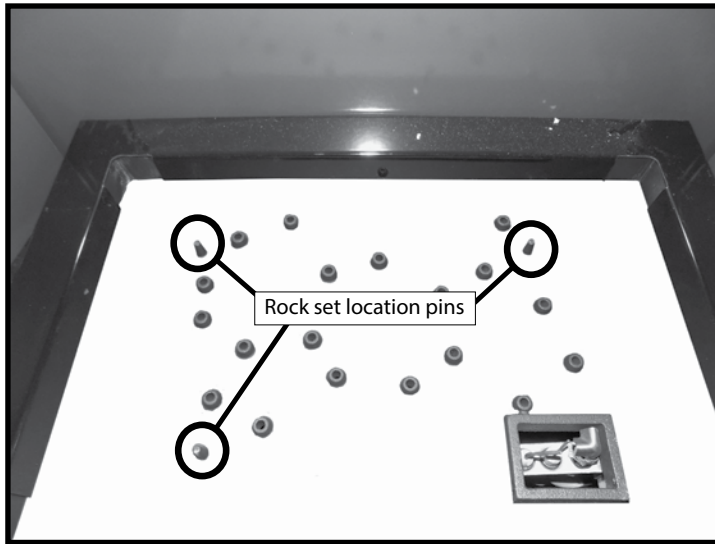

Figure 22: Location pins for rock set.
22. Gently place pebble assembly onto sand base aligning 3 holes in the bottom of the rock set to the 3 pins located on the burner tray (Figure 22).